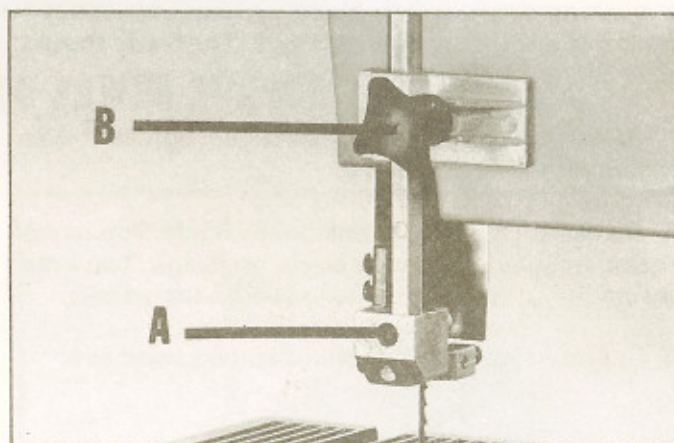

Fig. 12
The upper blade guide assembly (A) Fig. 12, should always be set about 1/8" above or as close as possible to the top surface of the workpiece being cut. Loosen knob (B) Fig. 12, and position the guide assembly (A) to the desired position.